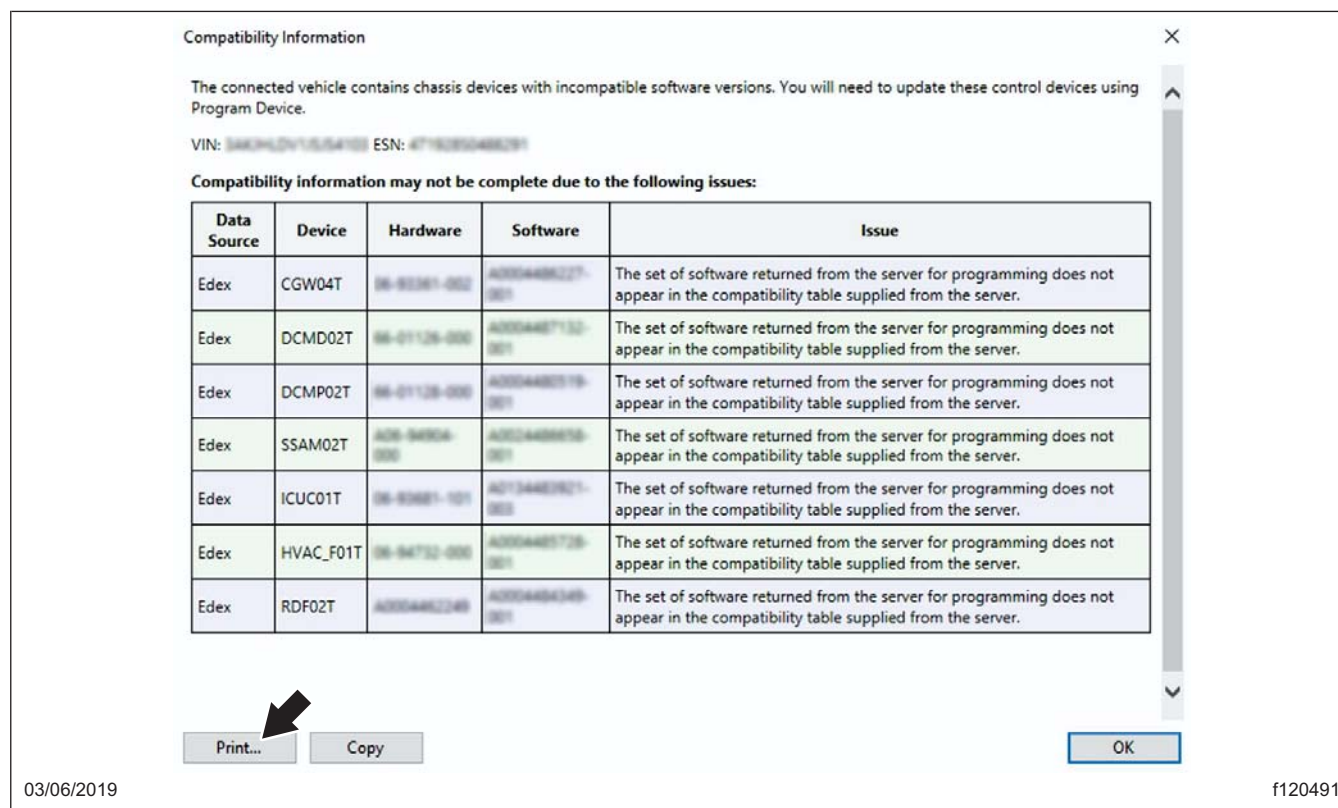

Fig. 11, Printing the List of Incompatible ECUs
15. Print or take a screen shot of the incompatible ECUs. See Fig. 11.